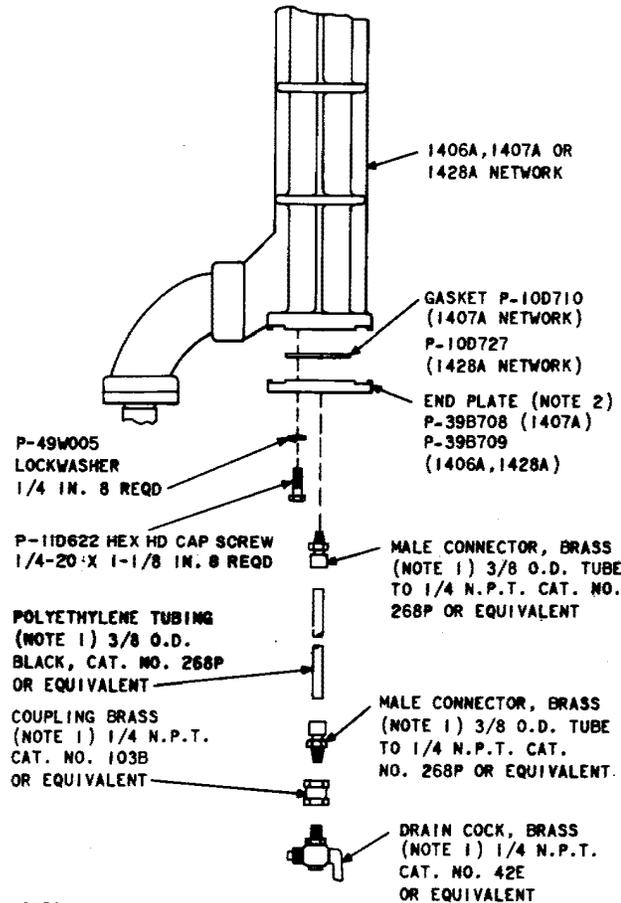

Fig. 12—Installation of Network Drain
**2.32** When the use of a water trap is not desired, end-plate assemblies are available for draining condensation from the bottoms of networks (Fig. 12). Screw the 3/8-inch tubing male connector into the 1/4-inch NPT tapped hole in the center of the end plate, as shown in Fig. 12. Install the 3/8-inch OD black polyethylene plastic tubing, between the male connector and a point approximately 5 feet above the tower base. Attach another 3/8-inch tubing connector to the tubing, and then attach the draincock to the tubing by means of the 1/4-inch NPT female coupling. Secure the draincock to the tower. The draincock will be used, as required, to remove any water which has entered the system above this point.